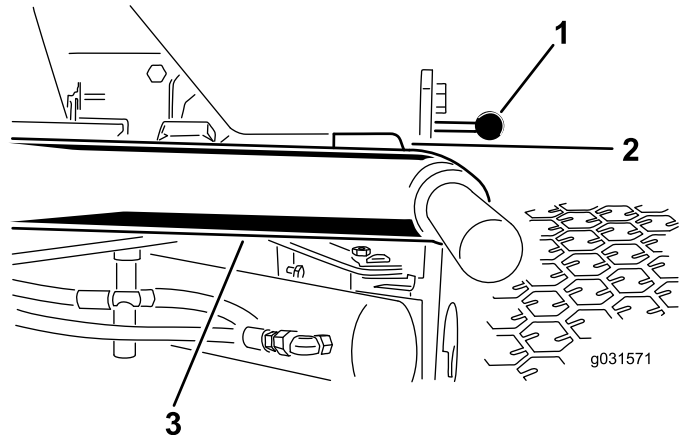

Figure 11
1. Start the engine, raise the cutting units, and ensure that the clearance between each lift arm and the floor-plate bracket is 5 to 8 mm (0.18 to 0.32 inch) as shown in Figure 11.